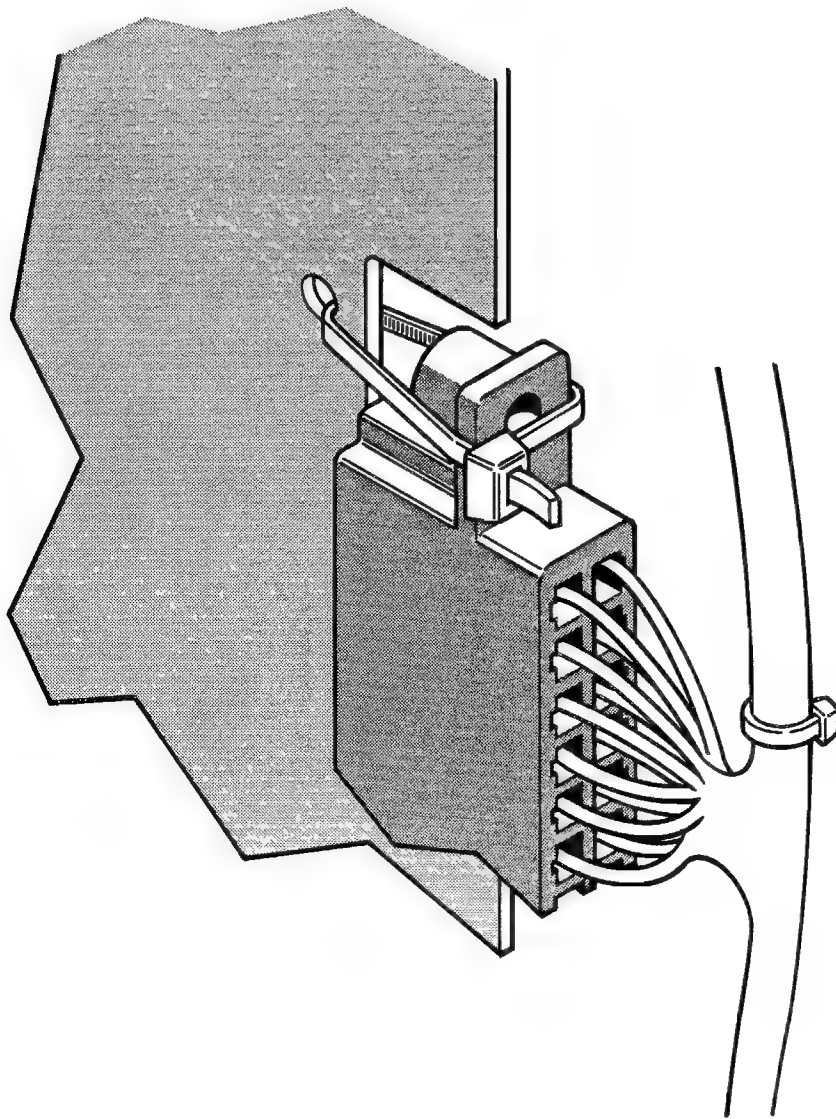

Figure 5 PCB Edge-Connector Wire-Tie Installation
4. Secure the edge connectors to the PCB by fastening a wire tie around the eye at each end of the two connectors and through the hole in the PCB as shown in Figure 5 (total of four ties).